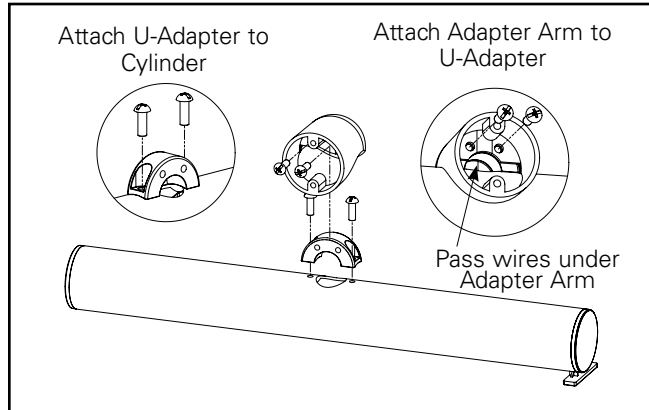

Figure 3.
**c. WALL MOUNT:** Move the Housing Wire Harness towards the wall side of the fixture. Mount the U-Adapter to the housing using the two screw, passing the wires under the adapter. Feed the Housing Wire Harness through the Adapter Arm and lower the Adapter Arm onto the U-Adapter. Align the screw holes on the side of the U-Adapter and the internal Adapter Arm screw holes and secure them together with two screws. Pass the Housing Wire Harness through the center hole selected on the canopy and secure the Canopy to Adapter Arm with two screws. Ensure the Canopy Securing screw hole is facing downwards. (See Figure 3)